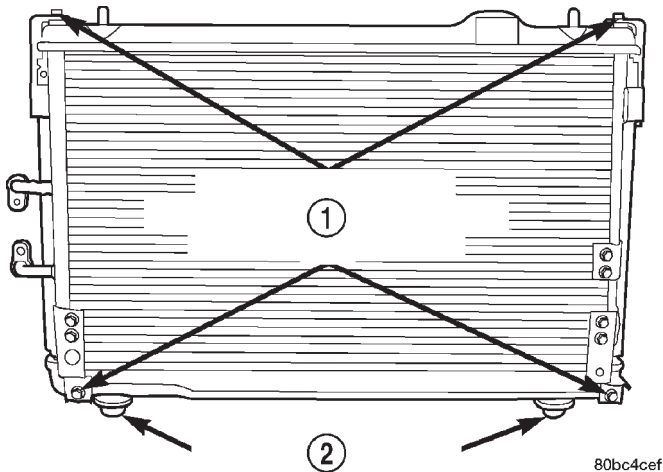

Fig. 25 A/C Condenser to Radiator Mounting Screws
- (9) Remove the air conditioning condenser attaching screws located at the front of the radiator, if equipped (Fig. 25), then lean condenser forward.
- (1) Slide radiator down into position behind radiator support (yoke).
- (2) Attach air conditioning condenser to radiator, if equipped (Fig. 25), with four mounting screws. Tighten screws to 5.4 N·m (50 in. lbs.). Then seat the radiator assembly lower rubber isolators into the mounting holes provided in the lower crossmember.